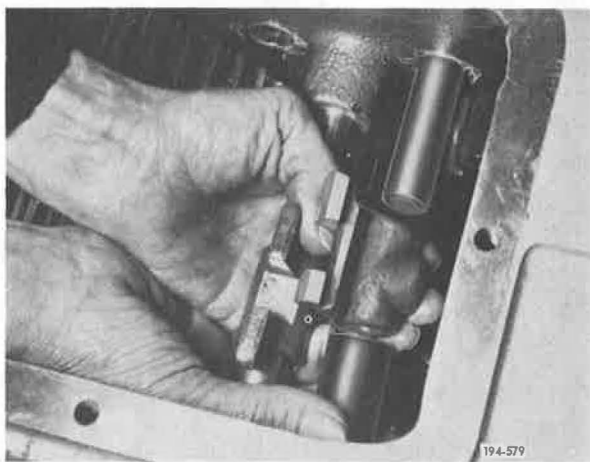

Figure 5-540. Installing Shifter and Spacer
12. Slide first speed shift rail through front of case, and install first speed shifter and reverse lockout spacer onto rail. See Figure 5-540.